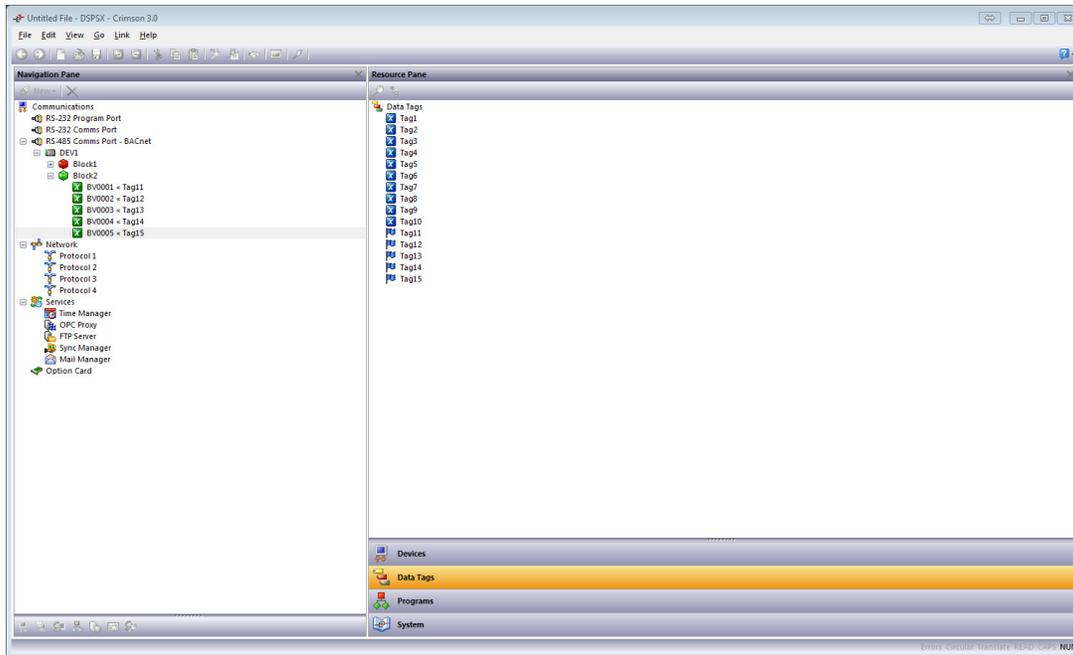

Figure 10.
26. Referring to Figure 10, drag each tag from the Resource Pane to the Navigation Pane and drop it on the address with which it will be associated.